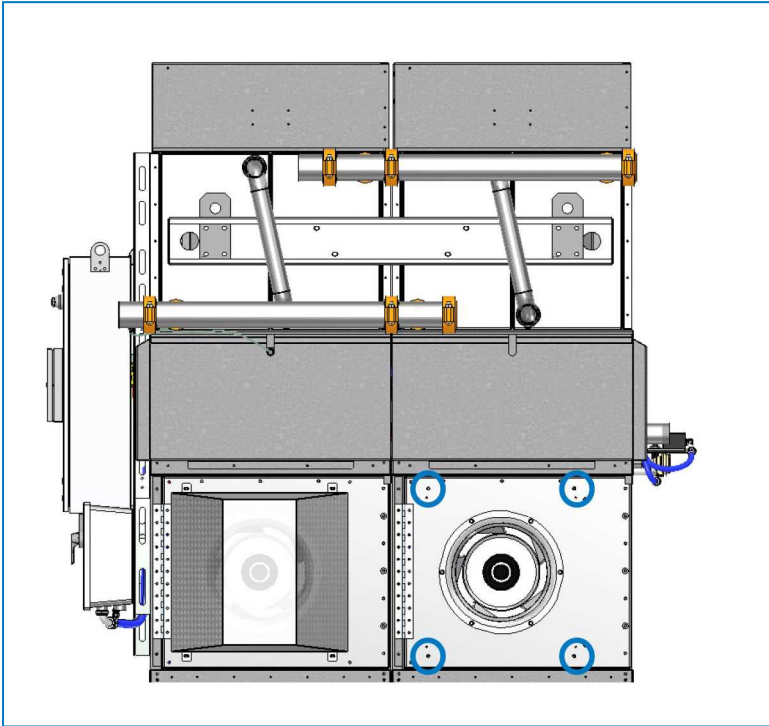

Fig. 24A Fan guard installation step 1
1. Remove the fastener from the Sistema di ventilazione EC panel. The fastener will be reused in step 2. See figure 24A.